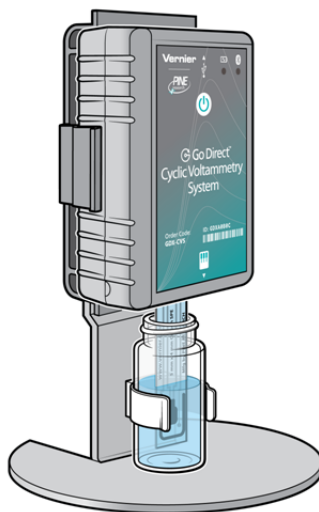

Figure 2
- a. Fill the scintillation vial about halfway full (~10 mL) with your 0.1 M potassium nitrate solution. Insert the scintillation vial into the clip on the stand. Carefully guide the Cyclic Voltammetry System with SPE attached downward into the vial and snap the instrument into place, as shown in Figure 2. **Caution:** *Treat all laboratory chemicals with caution. Prudent laboratory practices should be observed.*